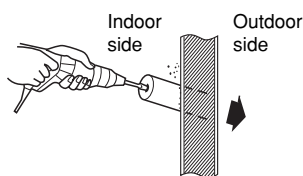

Fig. 3-102
- (8) If the tubing and wiring are to go towards the rear of the unit, make holes in the wall. (Fig. 3-102)